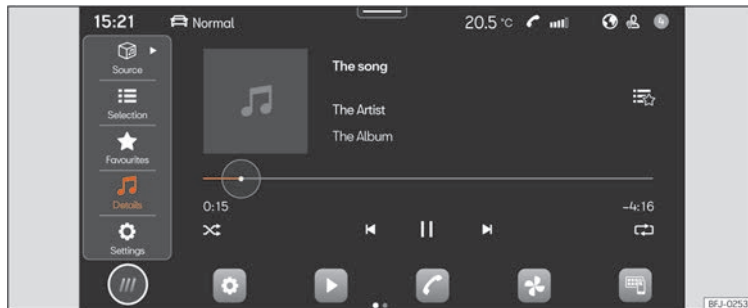

Fig. 139 Schematic diagram: Media view
- Press **HOME** > ► >>> **Fig. 139**.